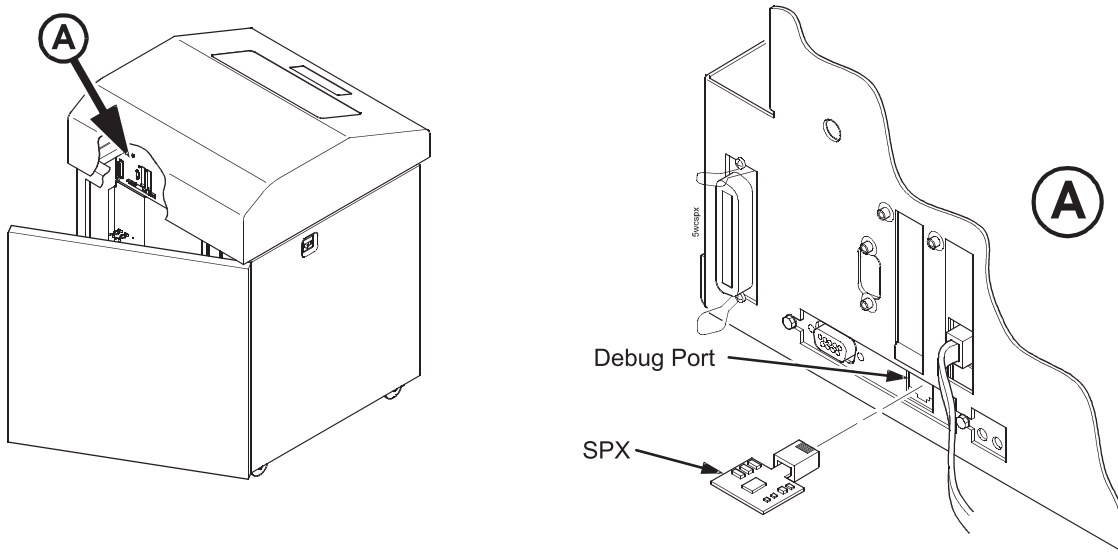

Figure 10. Inserting the SPX into the Debug Port
2. On cabinet models, open the rear door. On pedestal models, refer to Figure 10 to locate the debug port at the rear of the printer.